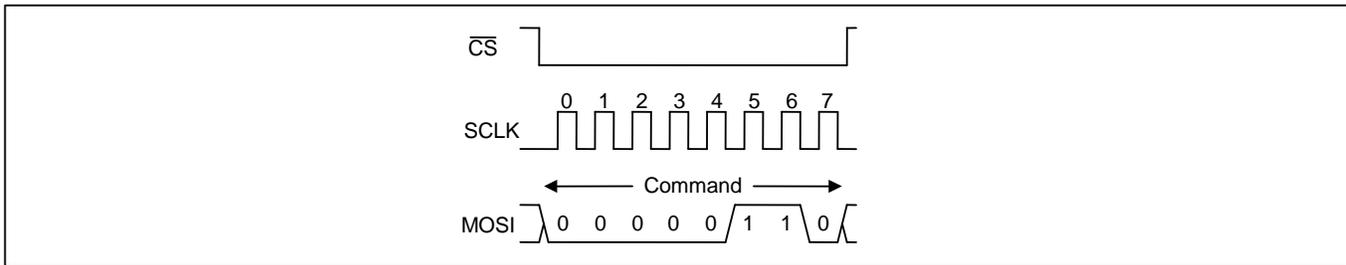
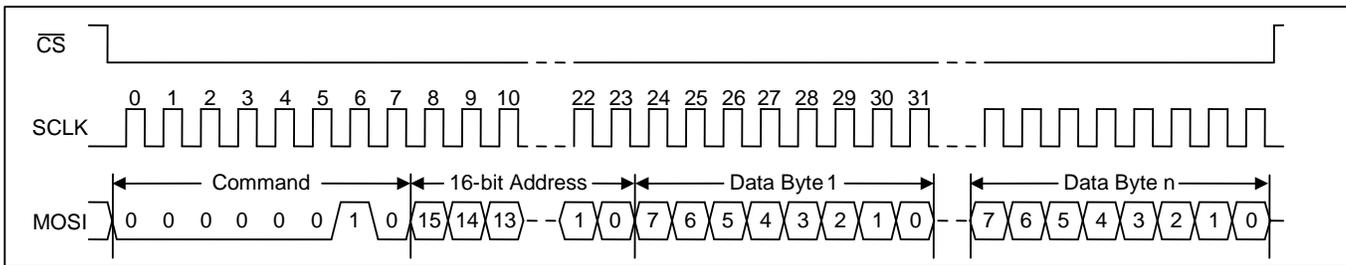

Figure 7 - SPI Write Enable Transaction Functional Timing (ZL30261 and ZL30263 Only)
Figure 8 - SPI Write Transaction Functional Timing
**Register Write Transactions.** The device registers are accessible when  $EESEL=0$ . After driving CSN low, the bus master transmits the write command followed by the 16-bit register address followed by the first data byte to be written. The device receives the first data byte on MOSI, writes it to the specified register, increments its internal address register, and prepares to receive the next data byte. If the master continues to transmit, the device continues to write the data received and increment its address counter. The write transaction is completed when the bus master drives CSN high. See Figure 8.
**EEPROM Writes (ZL30261, ZL30263 Only).** The internal EEPROM memory is accessible when the  $EESEL$  bit is 1. After driving CSN low, the bus master transmits the write enable command and then drives CSN high to set the internal write enable latch. The bus master then drives CSN low again and transmits the write command followed by the 16-bit address followed by the first data byte to be written. The device first copies the page to be written from EEPROM to its page buffer. The device then receives the first data byte on MOSI, writes it to its page buffer, increments its internal address register, and prepares to receive the next data byte. If the master continues to transmit, the device continues to write the data received to its page buffer and continues to increment its address counter. The address counter rolls over at the 32-byte page boundary (i.e. when the five least-significant address bits are 11111). When the bus master drives CSN high, the device transfers the data in the page buffer to the appropriate page in the EEPROM memory. See Figure 7 and Figure 8.